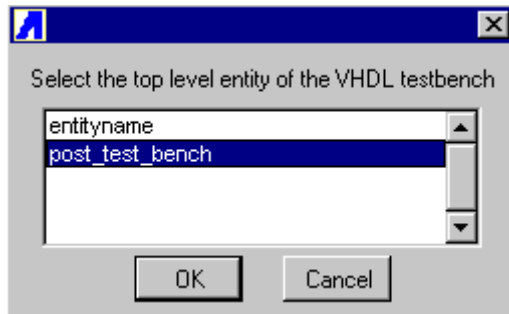

Figure 23 Top Level Entity
7. Press **OK** to close the Test Bench Manager, the *select top level entity of the VHDL test bench* dialog box appears, see **Figure 23**.